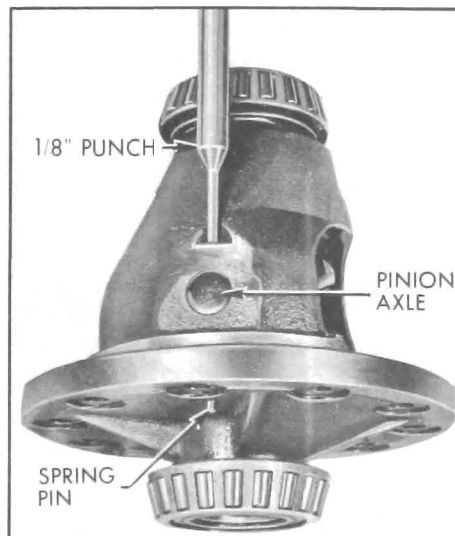

Figure 6-14—Removing Spring Pin from Pinion Axle
3. Drive spring pin from differential pinion axle. See Figure 6-14. Drive pinion axle from case. Remove differential pinions, side gears and thrust washers from case.